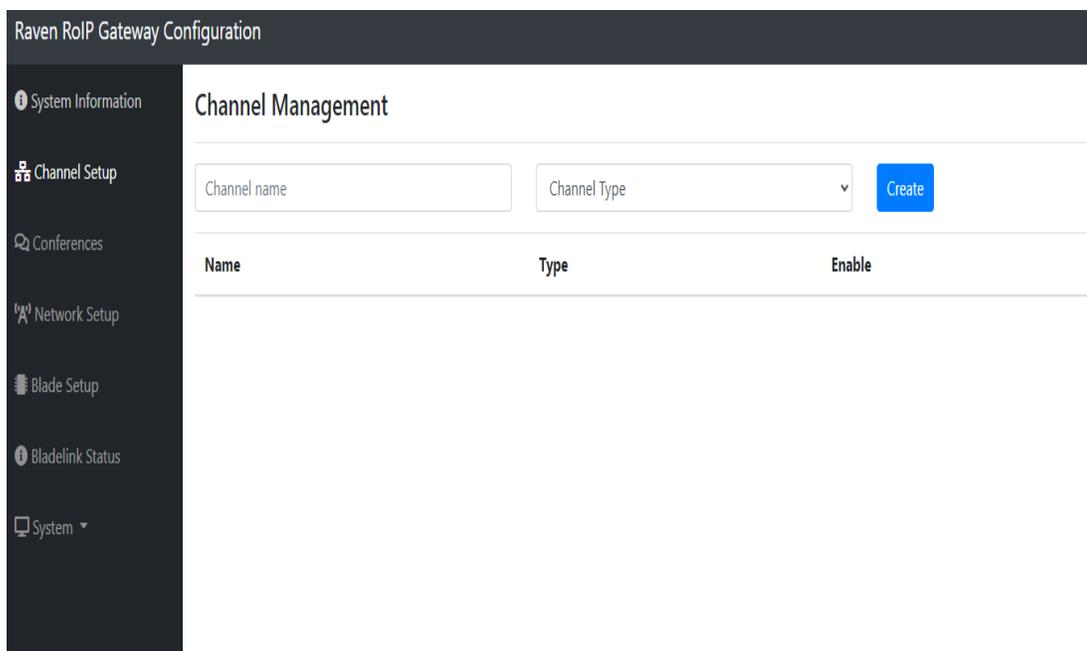

Figure 7-1: “Channel Setup” web interface.
1. Navigate to the “Channel Setup” page on the left side panel and it will look like Figure 7-1.